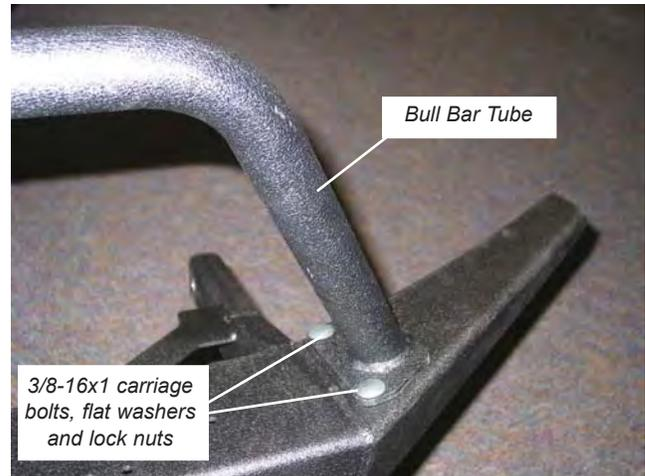

Figure 7
7. Position and attach bull bar tube to top of bumper as shown in Figure 7. Use 3/8-16x1 carriage bolts, 3/8 flat washers and 3/8-16 lock nuts provided to fasten tube to bumper. Torque to recommended specifications 30lb. ft. (40.7 N-m).